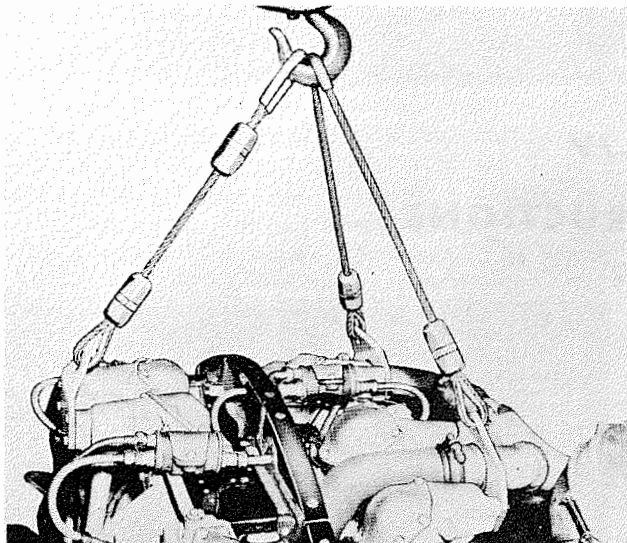

Figure 4-2. Hoist Sling Attached to Engine
c. Remove the propeller shaft hold down clamp. Cut the envelope to provide access for attaching the engine sling to the engine. Attach engine sling 923304 to the cowl attaching location on the rocker boxes. See figure 4-2. The sling plates are attached to the cylinder rocker boxes as follows: Front plate to No. 2 exhaust and No. 18 intake; left rear plate to No. 1 exhaust and No. 17 intake; right rear plate to No. 1 intake and No. 3 exhaust. Suspend the engine in flight position from a hoist with a minimum capacity of two tons.